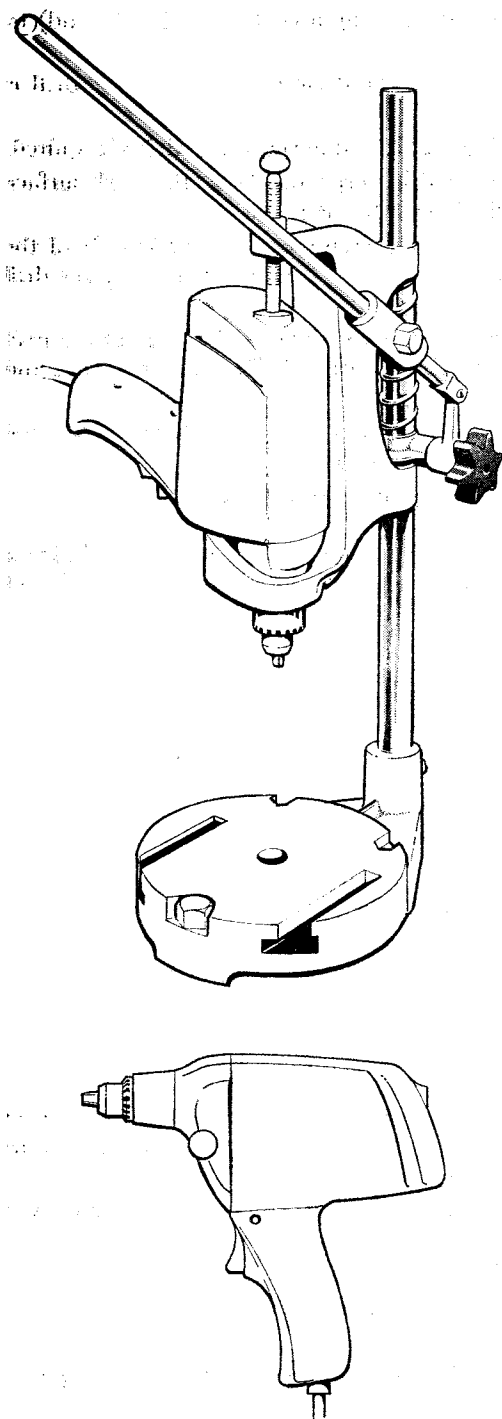

Fig. 5 Power drills
8. **Power-driven drills.** Electric hand drills are a very useful timesaver, but can be dangerous unless they are kept in good condition and are handled carefully. Fixed power-operated drilling machines are normally used only by authorized tradesmen (Fig 5).